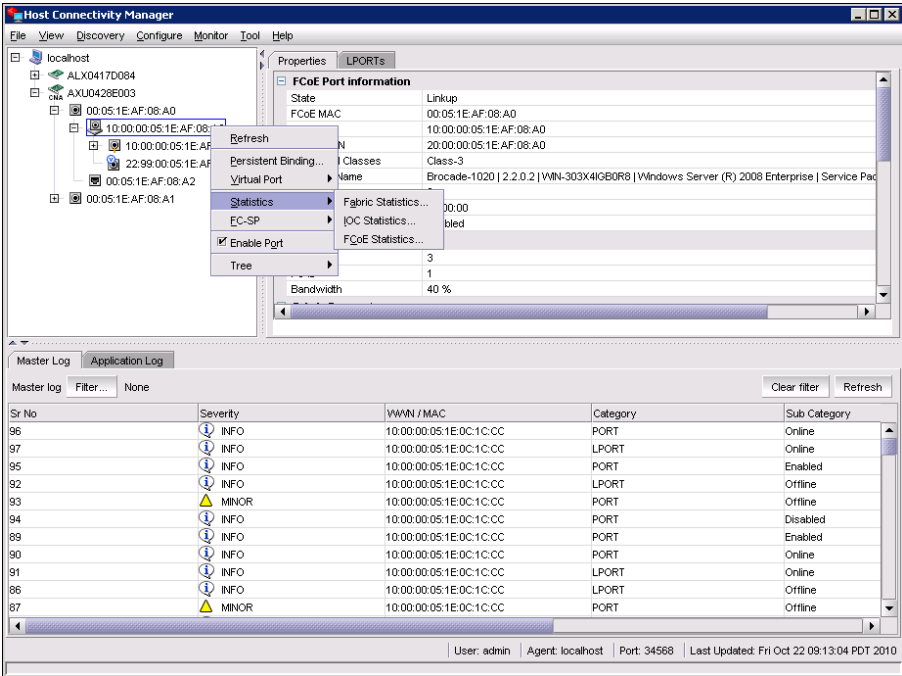

Figure 10-49 Statistics from HCM
1. To enter a Statistics dialog box, right-click the required component in the Tree View and select the statistics option from the menu as shown in Figure 10-49.